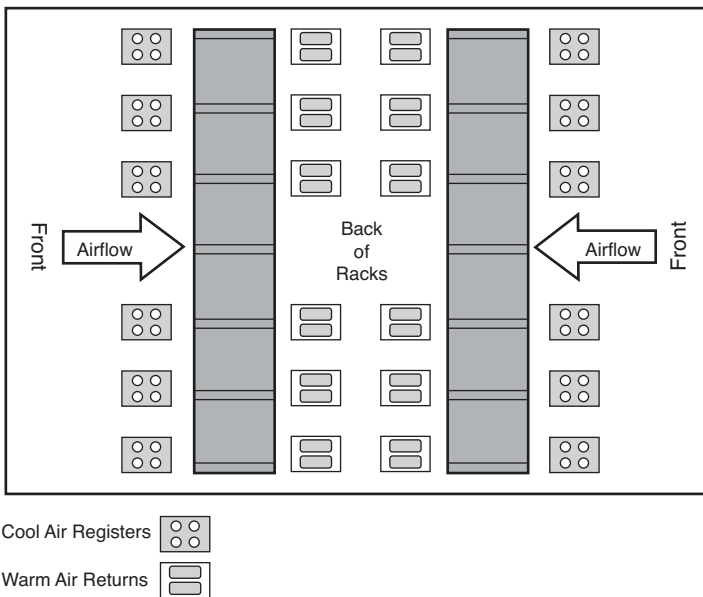

FIGURE 21.3 Placement and layout of racks and floor tile airflow registers/returns are critical to maintaining proper air temperature in the SAP data center.
- ▶ Are your air registers positioned for the best airflow? It is highly recommended that the racks be arranged in a front-to-front or back-to-back manner. Picture standing in between two rows of racks that either face toward each other or face away from each other, and you will understand front-to-front and back-to-back, respectively. For maximum front-to-rear airflow, the *air registers* (the floor tiles with the little holes in them that force out cool air) should be placed in line with the front of the racks. Similarly, air returns located inline with the rear of the racks are a must, too, as shown in Figure 21.3. In this case, the row in front of the servers is referred to as the “cold row” and the row behind the servers as the “hot row.” In the case of bottom-to-top airflow, the air registers are instead placed such that the rack sits on top of them.